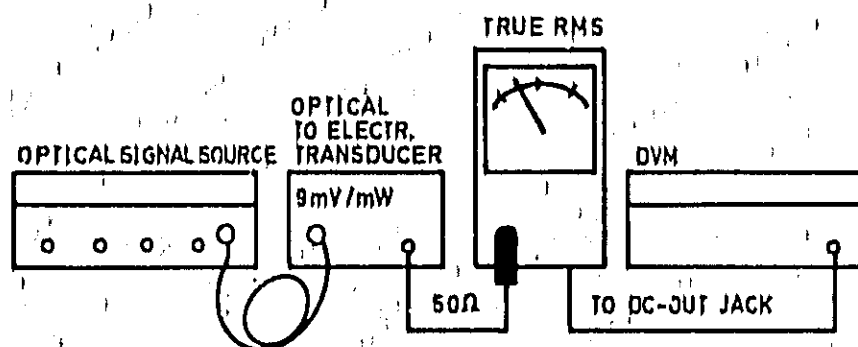

Figure 4-13. Test setup for establishing flatness of the stimulating source.
- a. Connect the equipment as shown in Figure 4-13.